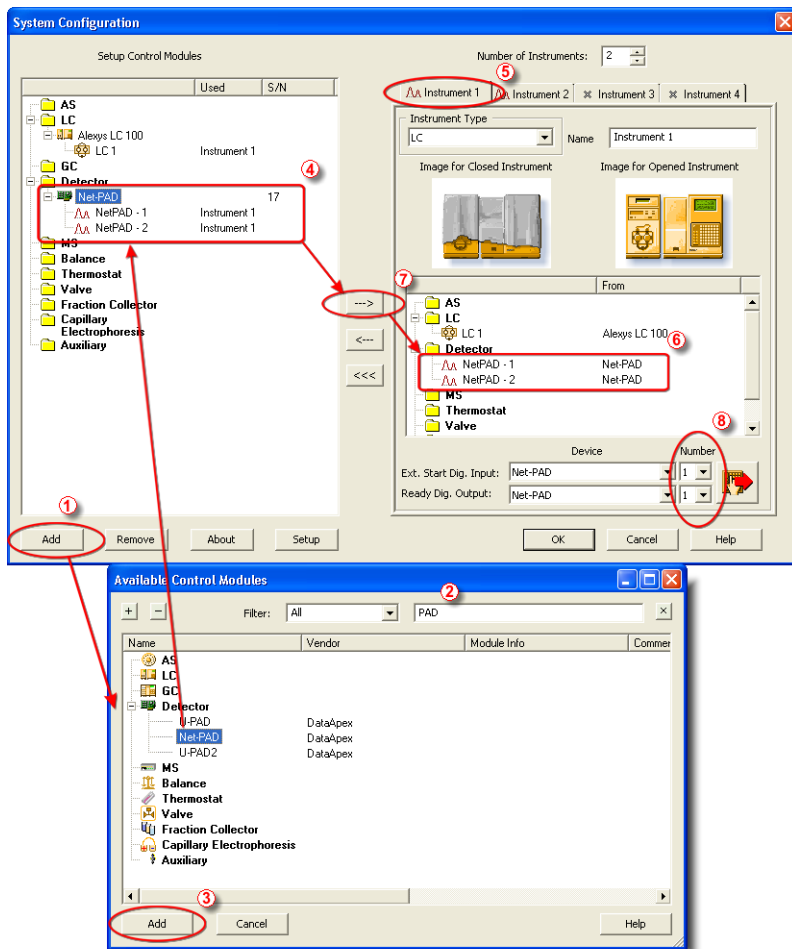

Fig 8: System Configuration
- Press the **Add** button ① (See **Fig 8** on pg 12.) to invoke the **Available**